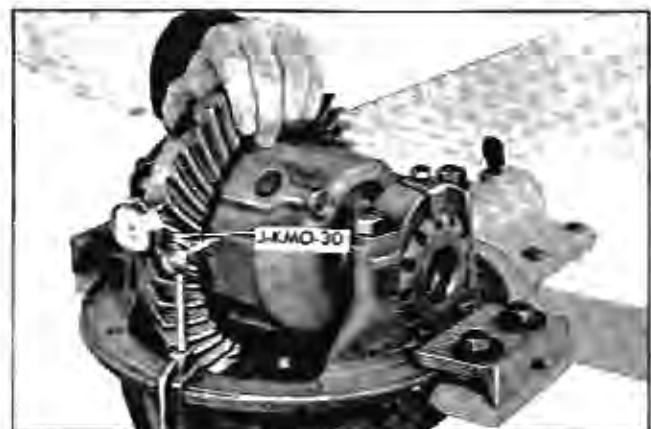

Fig. 4-61 Checking Backlash with KMO-30 Set
27. Using indicator KMO-30, check variance of ring gear backlash. Backlash should not exceed .005"-.009", Fig. 4-61.